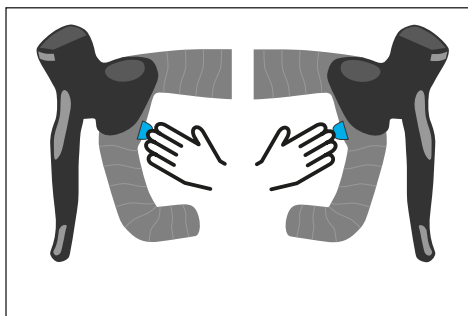

Fig. 4: Selection of the assist mode on the HPR Single Button Remote
- With a **short** press on the right button of the HPR Single Button Remote (see Fig. 4) or with the optional button of an electric gear shifting (see "3.8.2 Gear shift" & "3.8.3 Riding range") you increase the assist mode.
- With a **short** press on the left button of the HPR Single Button Remote (see Fig. 4) or with the optional button of an electric gear shifting (see "3.8.2 Gear shift" & "3.8.3 Riding range") you decrease the assist mode.